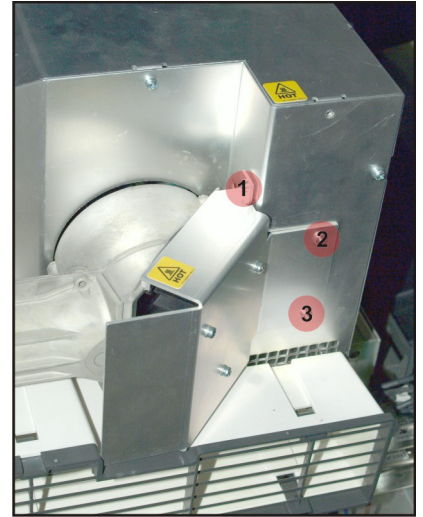

Figure 5-71 Remove Heat Sink
4. Remove the three PEM nuts securing the heat sink over the cold mirror (**Figure 5-71**).